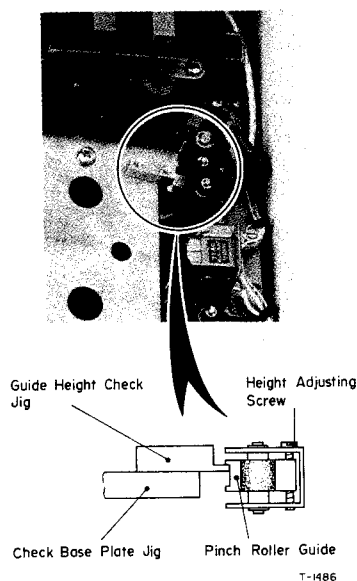

Fig. 5-18 Pinch roller guide adjustment
2. Attach the tip of the guide height check jig, resting the check base plate jig, under the pinch roller guide as illustrated in Fig. 5-18, keeping a reasonable distance from the capstan shaft in order not to scratch the shaft.
7. If there is tape curling, particularly at the supply side pinch roller guide, adjust the height of the tape guide of the REC & PLAY head by slightly turning the height azimuth screw near the guide (see item 5-10, Fig. 5-20). Then adjust the height of the take-up side pinch roller guide (see item 5-10, Fig. 5-18). Note that height adjustment of the supply side pinch roller guide is not permissible.